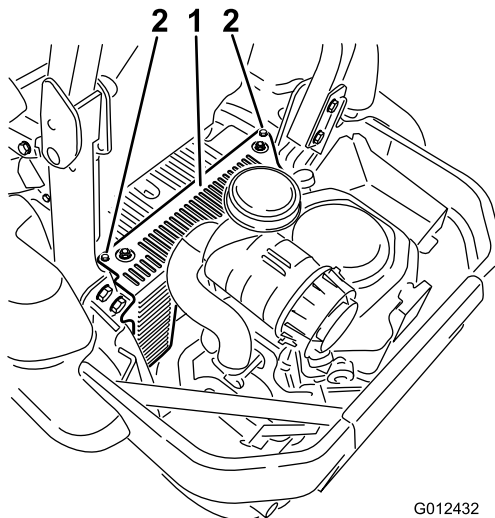

Figure 54
3. Remove the hydraulic unit shroud and the 2 bolts attached to it (Figure 54). This gives you access to the front spark plug.
5. Install the lefthand hydraulic unit shroud (Figure 54).